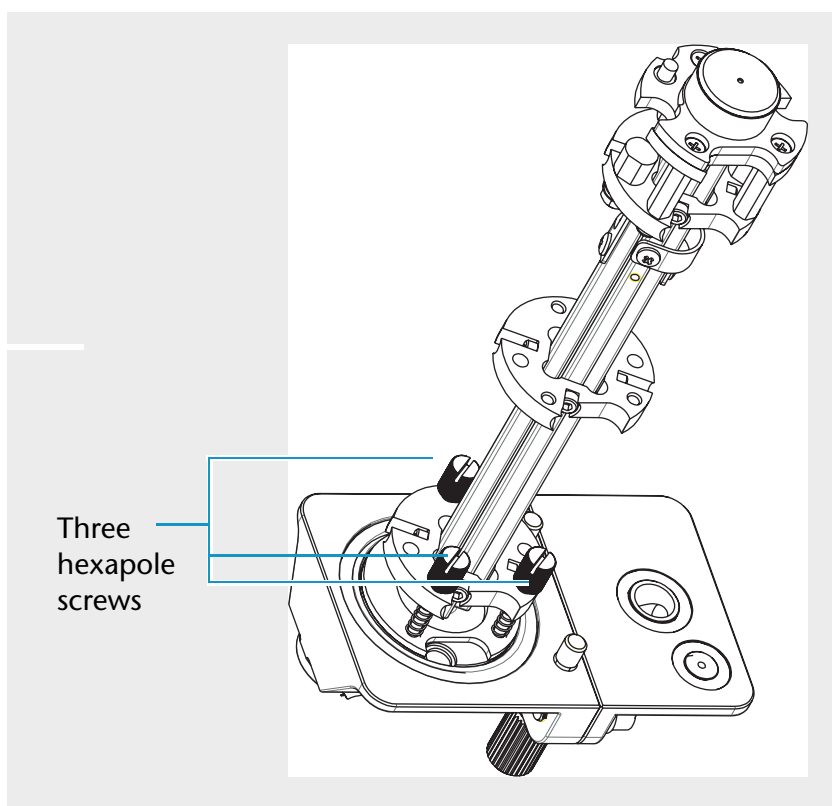

Fig. 66 Source block assembly with the three screws connecting the RF/dc prefilter to the source block
1. Support the quadrupole as you unscrew the hexapole screws at the base of the RF/dc prefilter to disconnect it from the source block. Tools are not required to remove the quadrupole. See Figure 66.
screws at the base of the RF/dc prefilter into the source block. It might help to remove the thumbscrews from the source block, allowing the block to sit upright on a flat surface. See Figure 66 on page 95.